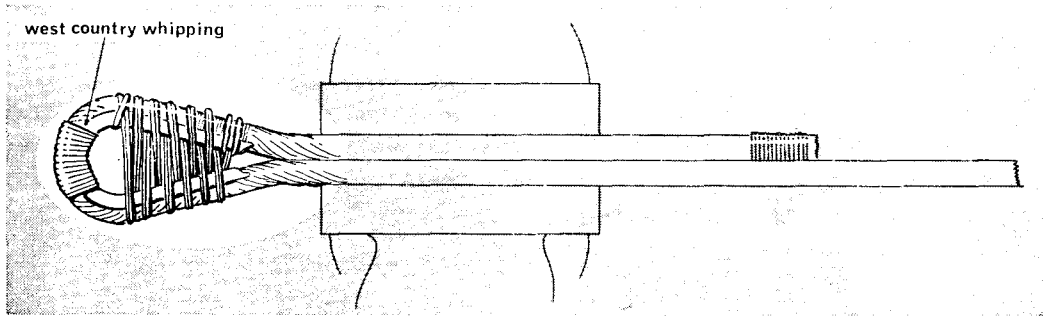

Fig 9.4 Preparation of a Hard Eye (3)
- Continue making figure of eight turns until you have made eight to twelve turns, ensuring that as each turn is made, the whipping is pulled taut. Finish off with a clove hitch (Fig 9.4).
- Make a west country whipping approximately $\frac{1}{2}$ inch long on the end of the thimble as shown in Fig 9.4. The wire is now ready for splicing and can be removed from the vice.